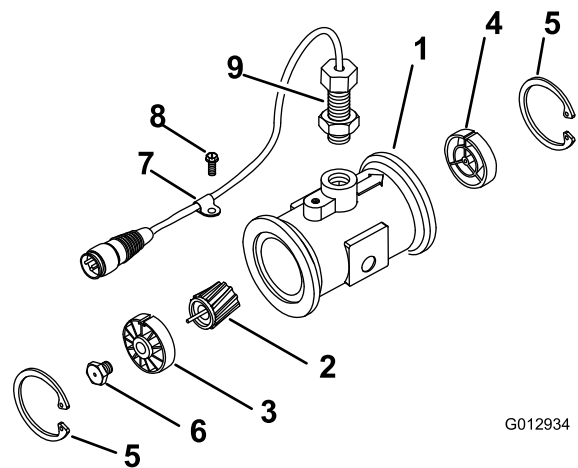

Figure 60
- Remove the retainer ring on the upstream side (Figure 60).